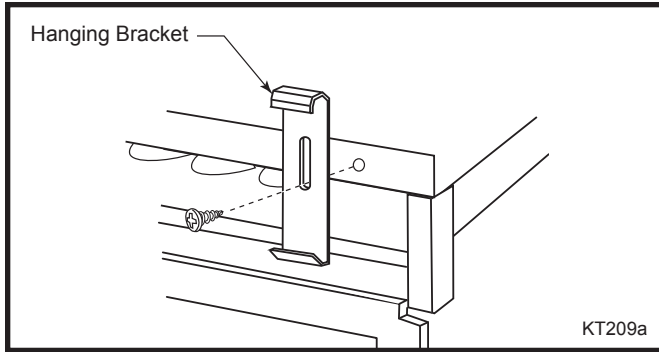
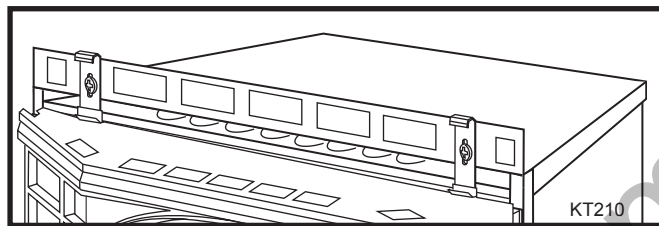

Fig. 65 Hanging bracket alignment.
Fig. 66 Hang the window grille or the steel frame onto the lower tabs of the hanging brackets.
2. Install the hanging brackets. (Fig. 65)
3. Install the two (2) ceramic pieces inside the bay window.
4. Install the bay window by hanging it onto the lower tabs of the hanging brackets. (Fig. 66)